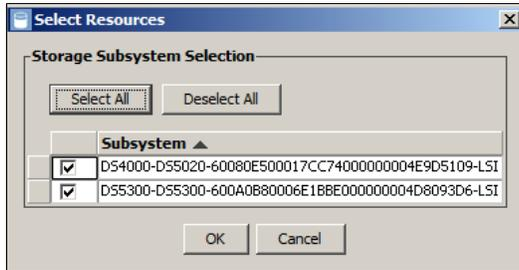

Figure 9-38 Storage subsystem selection
- Click **Selection** on the Selection tab to select the storage subsystems for which you want to generate the report. In our case, we select **DS5020** and **DS5300**, as shown in Figure 9-38.